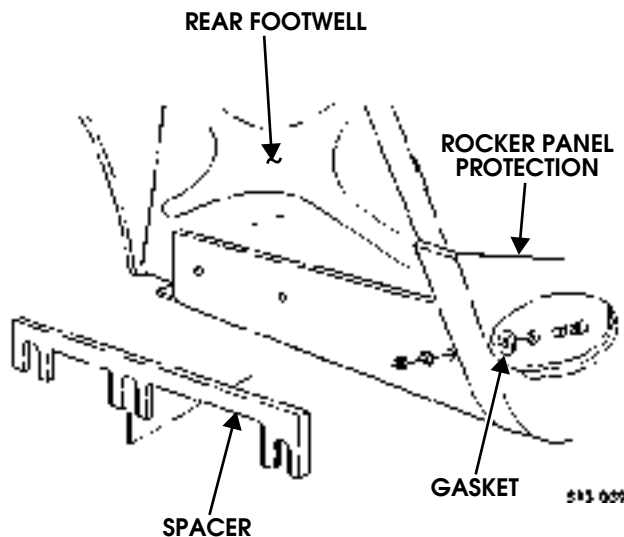

Figure 13-41: Rear Footwell
5. Remove three nuts, washers, bolts, washers, and gaskets securing spacer (if present) and rocker panel protection to rear footwell (Figure 13-41).
2. Secure rocker panel protection to rear footwell with three gaskets, washers, bolts, washers, and nuts. Do not tighten nuts (Figure 13-41).